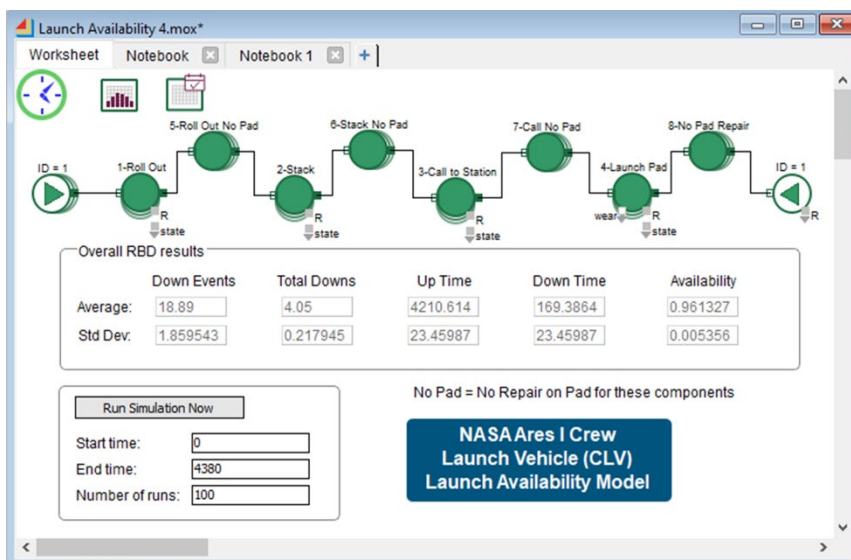

Figure 11-3: A version of the completed CLV Launch Availability model
To build the CLV Launch Availability Model, we start with a new, blank worksheet and we name it Launch Availability 1.mox. Next, we use our reliability diagrams to place reliability nodes on the worksheet. We provide a possible finished model picture in Figure 11-3 but you'll have to get there on your own (mostly).
Step 15: Run the simulation to check it is functioning as expected (refer back to Figure 11-3).